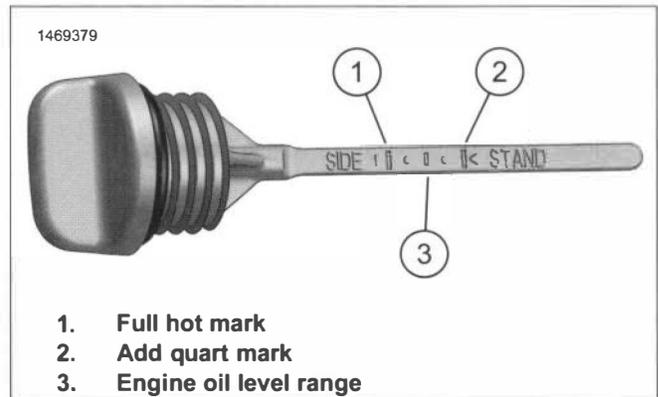

Figure 2-3. Engine Oil Dipstick (Vehicle Sidestand Gauge)
- e. See Figure 2-3. Check oil level range (3). Oil level must register between full hot (1) and add quart (2) marks on the dipstick.
17. See Figure 2-3. Add only enough oil to bring the level to the add quart mark.